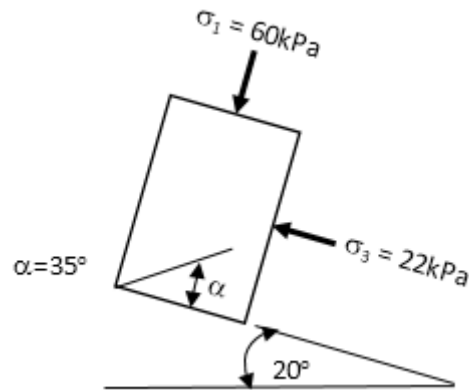

Figure 2 / Rajah 2
- [b] Determine the normal stress σ_α and the shear stress τ for the same element if it is rotated 20° from the horizontal plane as shown in **Figure 2**. Explain your results.